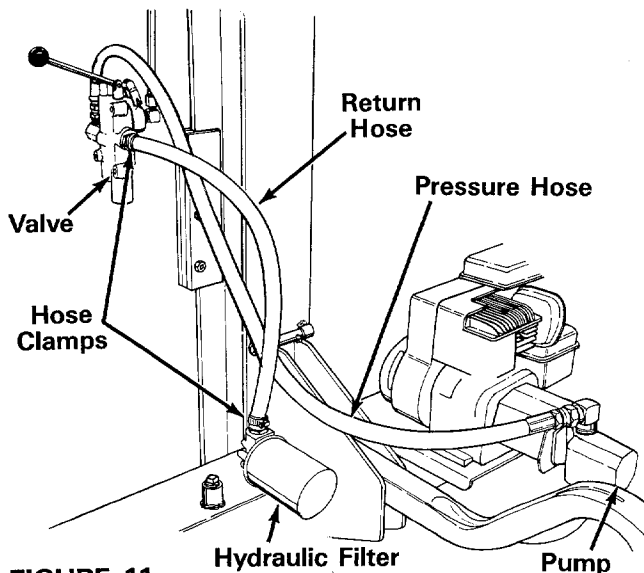

FIGURE 11
3. Attach one end of the hose to the fitting on the hydraulic filter head (located on top of the reservoir tank). Attach the other end to the fitting beneath the valve. See figure 11.
2. Thread one end of the hose into the fitting on top of the pump. See figure 11.
3. Thread the other end of the hose into the fitting on top of the valve. Adjust hose so it is relaxed and in the proper position as shown in figure 11. Do not allow hose to twist. Then tighten securely.